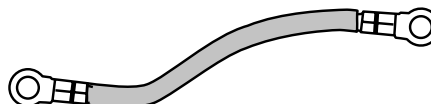

Fig. 12.7
**⚠ Your range is supplied with a ground strap that can be used when connecting to a three wire cord. Consult your electrician before changing the supplied cord kit (Fig. 12.7).**
A Ground strap is supplied in the conversion pack (**Fig. 12.7**). Fit the Ground strap to the ground and center terminal of the connector block.